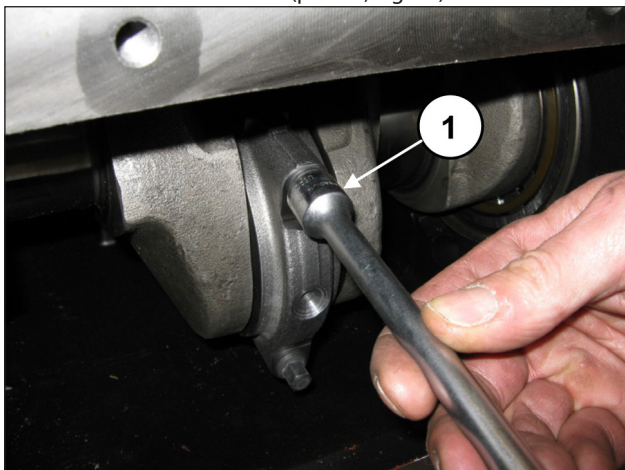

Fig. 17
Unscrew the con-rod screws (pos. ①, Fig. 17).